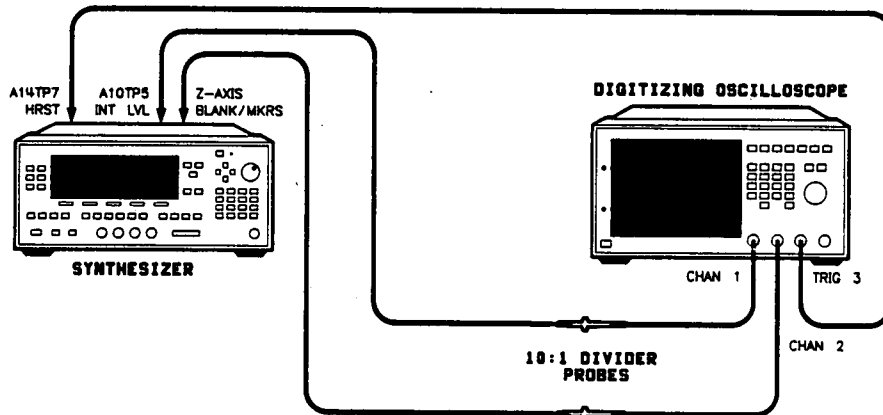

Figure 3-22. Low Power SRD Bias Test Setup
1. Connect the equipment as shown in figure 3-22. Preset all instruments and let them warm up for at least one hour.